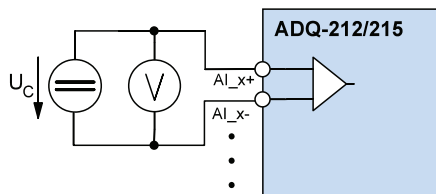

Figure 16: Adjustment wiring for analog inputs
3. Apply a constant voltage to one channel after the other and monitor the voltage by a high-precision voltmeter (e.g. multimeter). Make sure, that the voltmeter has a higher accuracy than the accuracy of your board. See also Figure 16.